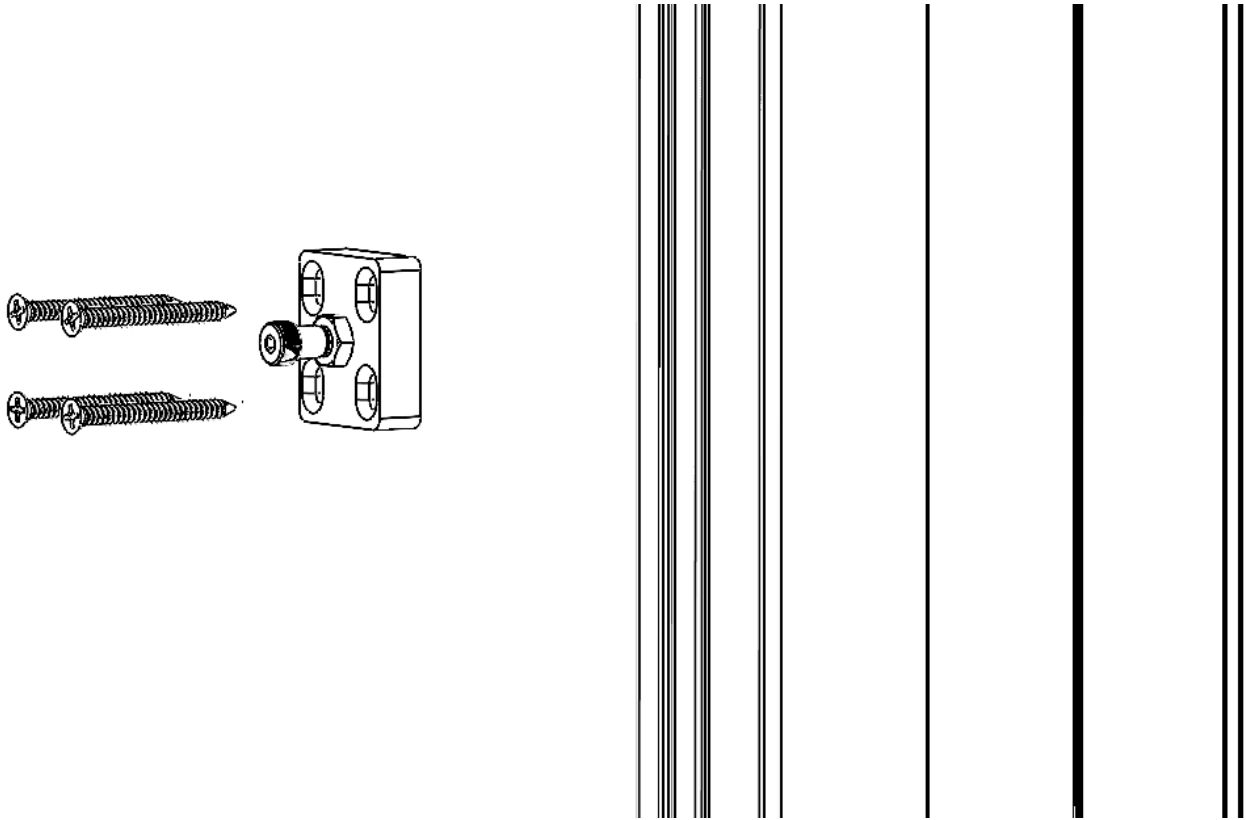

Figure 18
9. Drill four (4) 3/16" clearance holes at the marked locations of the strike plate. Anchor the lock strike to the jamb with #10 x 2" PH Flat Head screws into the structure below. Shim as needed to avoid bowing the frame. See **Figure 18**.